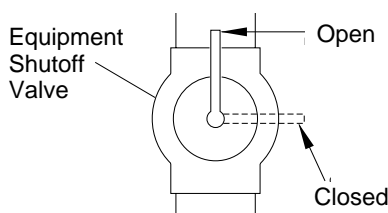

Figure 26 - Equipment Shutoff Valve
1. Close equipment shutoff valve (see Figure 26).
1. Open equipment shutoff valve (see Figure 26).